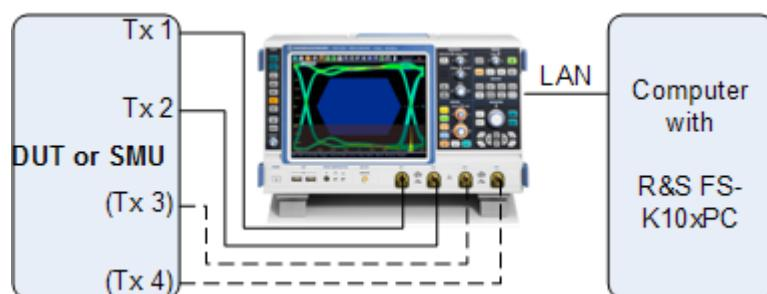

Fig. 8-5: Test setup for LTE MIMO measurements with an oscilloscope
The hardware setup is illustrated in figure 8-5. All transmit antennas (TX) of the device under test (DUT) or an SMU are connected to the RF input of the RTO. Either two or optionally four antennas are attached. The LTE-Software runs on a PC and is connected to the RTO via a local area network (LAN).